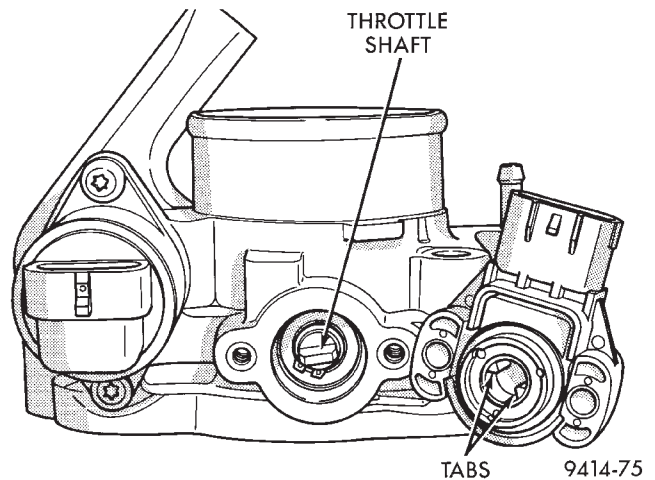

Fig. 79 Throttle Position Sensor Installation
- (1) The throttle shaft end of the throttle body slides into a socket in the TPS (Fig. 79). The socket has two tabs inside it. The throttle shaft rests against the tabs. When indexed correctly, the TPS can rotate clockwise a few degrees to line up the mounting screw holes with the screw holes in the throttle body. The TPS has slight tension when rotated into position. If it is difficult to rotate the TPS into position, install the sensor with the throttle shaft on the other side of the tabs in the socket. Tighten mounting screws to 2 N·m (17 in. lbs.) torque.
- (2) After installing the TPS, the throttle plate should be closed. If the throttle plate is open, install the sensor on the other side of the tabs in the socket.
- (3) Attach electrical connectors to idle air control motor and throttle position sensor.
- (4) Install throttle body. Refer to Throttle Body in this section.